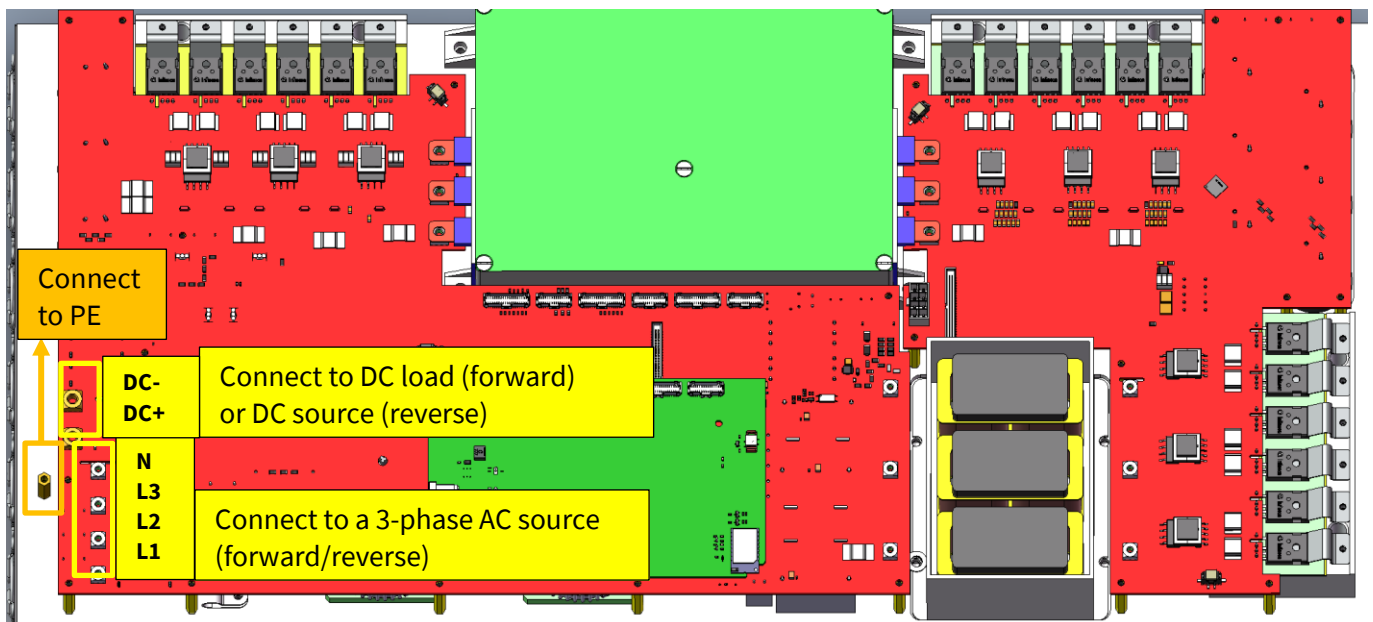
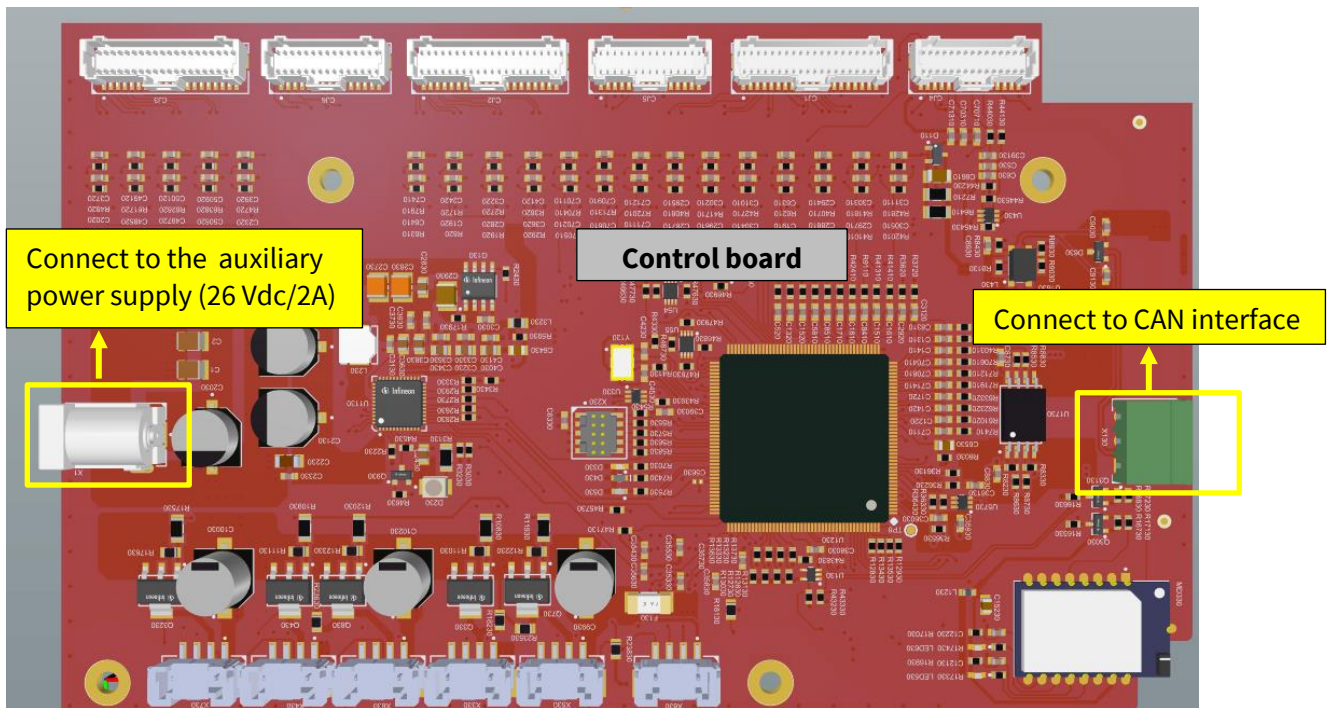

Figure 10 Power board setup
Figure 11 Control board setup
1. Connect the power board to a 3-phase AC power supply and a DC power supply (or the DC load) using the cables and terminals on the power board (see Figure 10).
2. Connect a protective earth (PE).
3. Connect the external auxiliary power supply (26 V/2 A) to the control board using the connector as shown in Figure 11.